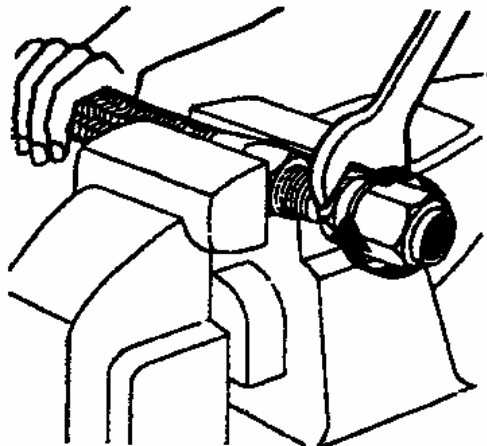

Figure 7. Tightening Nipple
a. Determine hose length from WP 004 00: Figure 7 and Table 6.
n. Insert nipple assembly into hose and socket using a wrench on the nipple hex (Figure 7).